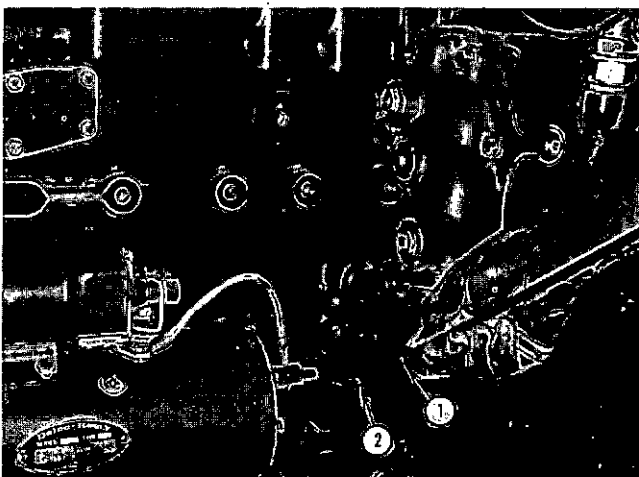

Fig. 2-2, N12012. Checking engine oil level
2. Keep oil level as near the high mark as possible (1, Fig. 2-2).